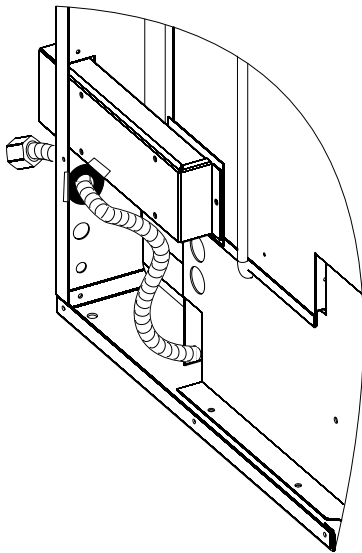

Figure 43- Fireplace Mantis
1. Pull the factory installed flexible gas line through the hole in the back panel. See Figures 43 and 44.